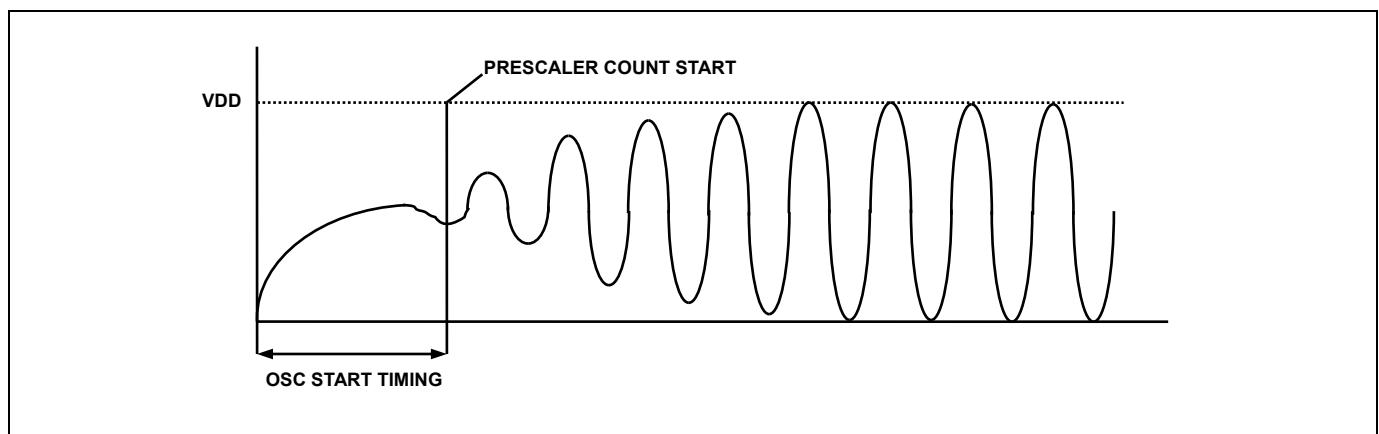

Figure 13.8 Oscillator generating waveform example
- As shown Figure 13.8, the stable generating time is not included in the start-up time.